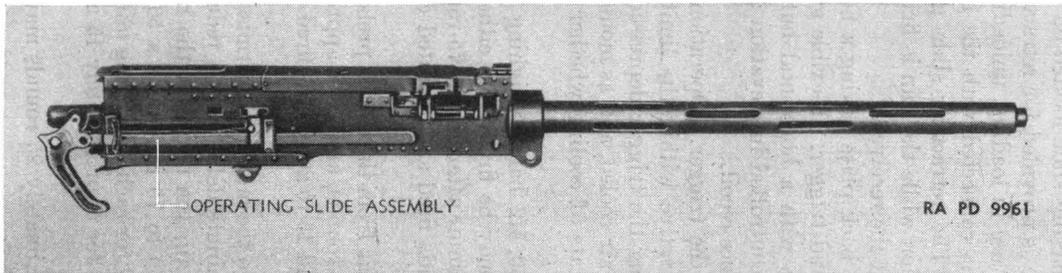

FIGURE 3.—Browning machine gun, caliber .50, M2, aircraft, fixed—right side view.
*b. Types.*—(1) *Fixed gun.*—The fixed gun (fig. 3) is designed for installation on or adjacent to the airplane engine; or for mounting in or on the wings. It is provided with an operating slide which connects with the bolt by means of the bolt stud. The operating slide is provided for retraction of the breech mechanism by hand and for use in loading, unloading, and reduction of stoppages in firing. It can be drawn back to its full extent or to a position with the bolt not fully home and the bolt retained there by engaging the slot provided in the lower surface of the operating slide on the operating slide rear guide. The bolt should never be locked in a position other than to the rear, to prevent overheating of a round and to insure that maximum spring action is obtained to return the bolt to firing position.